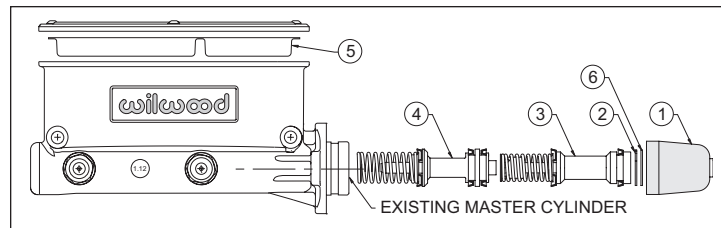

Figure 1. Master Cylinder Rebuilding Assembly Diagram
- Read the instructions and study Figure 1 to familiarize yourself with the procedure before you begin.
Rebuilding Instructions: Numbers in parenthesis refer to the parts depicted in Figure 1 (backside). Refer to Figure 1 as necessary during the rebuilding procedure.